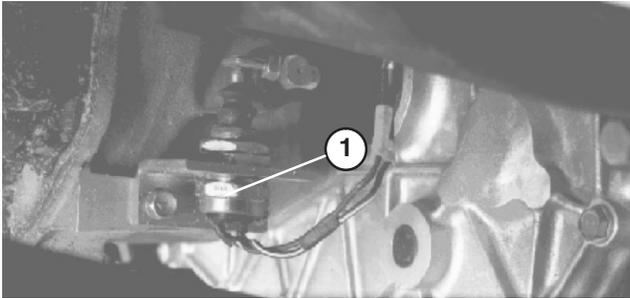

Figure 64
7. Recheck the clutch safety switch adjustment (Fig. 64). The engine must not crank unless clutch pedal is 1.25” ±.12” from floor. If an adjustment is required, loosen switch jam nuts and adjust up or down.